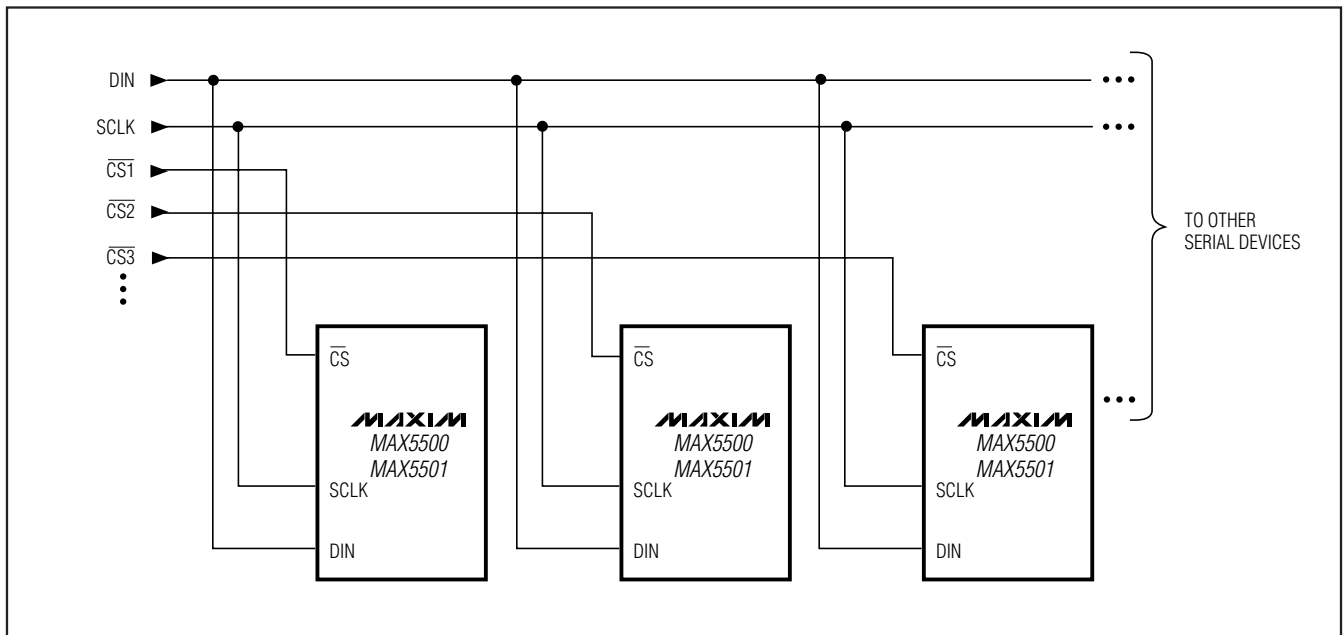

Figure 8. Multiple MAX5500/MAX5501 Devices Sharing a Common DIN Line
Figure 8 shows an alternate method of connecting several MAX5500/MAX5501 devices. In this configuration, the data bus is common to all devices. Data is not shifted through a daisy chain. More I/O lines are required in this configuration because a dedicated chip-select input (CS) is required for each IC.